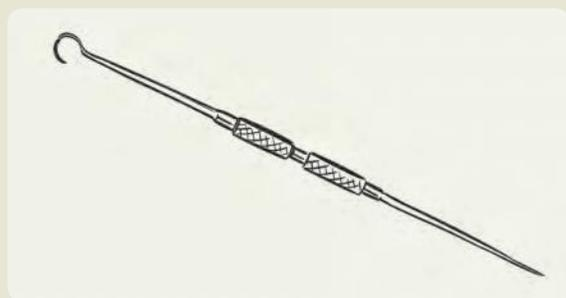

Figure 11.23 Ring scribe
- 1 There are three types of scribes used in metal work: ring scribes, blade scribes and engineer's scribes. The last is the most popular. Look at Figures 11.23 to 11.25 and list three things that you must do to prevent injury when you are using these scribes.